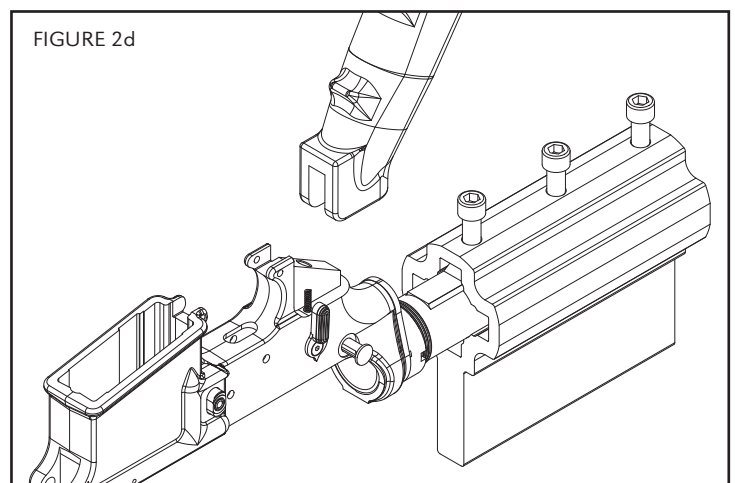

FIGURE 2d
- d. **The 12 O'clock Position:** Installation of the grip or safety assembly (Figure 2d).